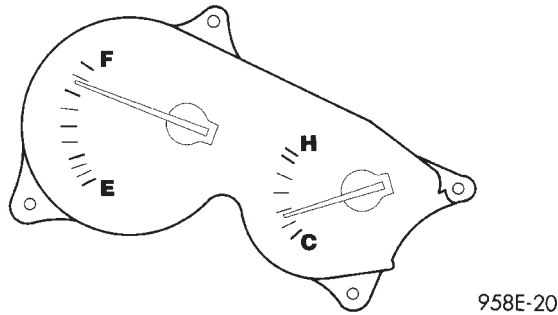

Fig. 6 Fuel Gauge and Temperature Gauge
- (4) Remove the fuel/temperature gauge attaching screws from the housing and remove (Fig. 6).